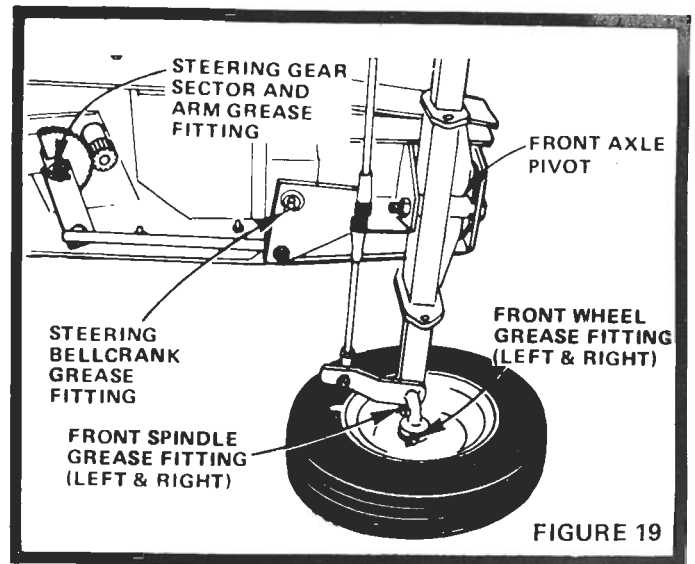

FIGURE 19
There are six Grease Fittings on your Tractor (Fig. 19). Using a Grease Gun, give each Grease Fitting two shots of Extreme Pressure Lubricating Grease Amdex No. 1 (Available through your Roper Dealer).
- b. Front Axle Pivot (Fig. 19)